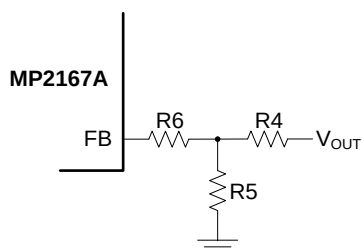

Figure 3: Feedback Network
The external resistor divider connected to FB sets V_{OUT} (see Figure 3). The feedback resistor (R4) must account for both stability and dynamic response, so it cannot be too large or too small. R4 is estimated to be 100kΩ. R5 can be estimated with (2):
It is highly recommended to use a T-type feedback network (see Figure 3).